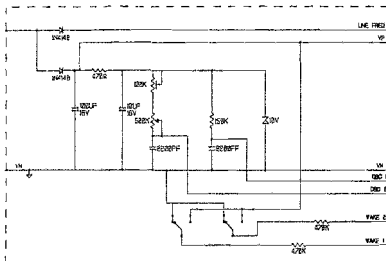

Fig.8 POWER SUPPLY INTERFACE WITHOUT STANDBY
- 1. Without battery standby facility Fig.8